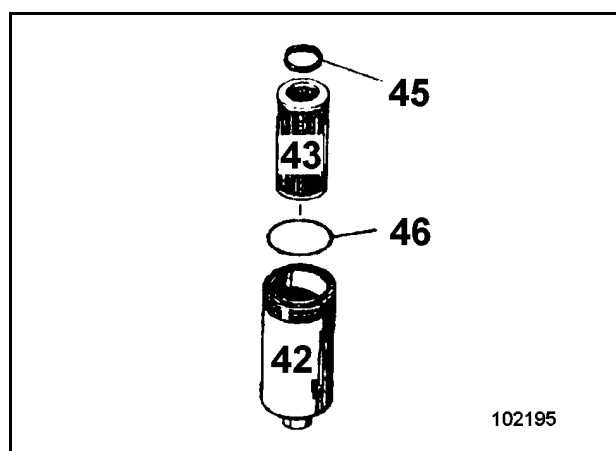

Fig. 3-66:
- Unscrew filter housing (42, Fig. 3-66:) and pour out the oil.
- Withdraw filter element (43) from housing (42).
- Insert filter element into housing (42) and attach to the filter head with a new, slightly oiled sealing ring (46).